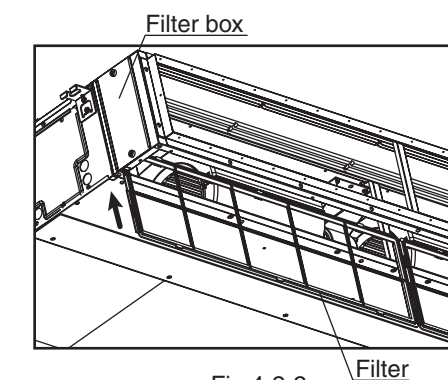

Fig.4-2-2
- (2) Insert the filter that was removed in step 3-1 above through the bottom of the filter box. (Fig. 4-2-2)